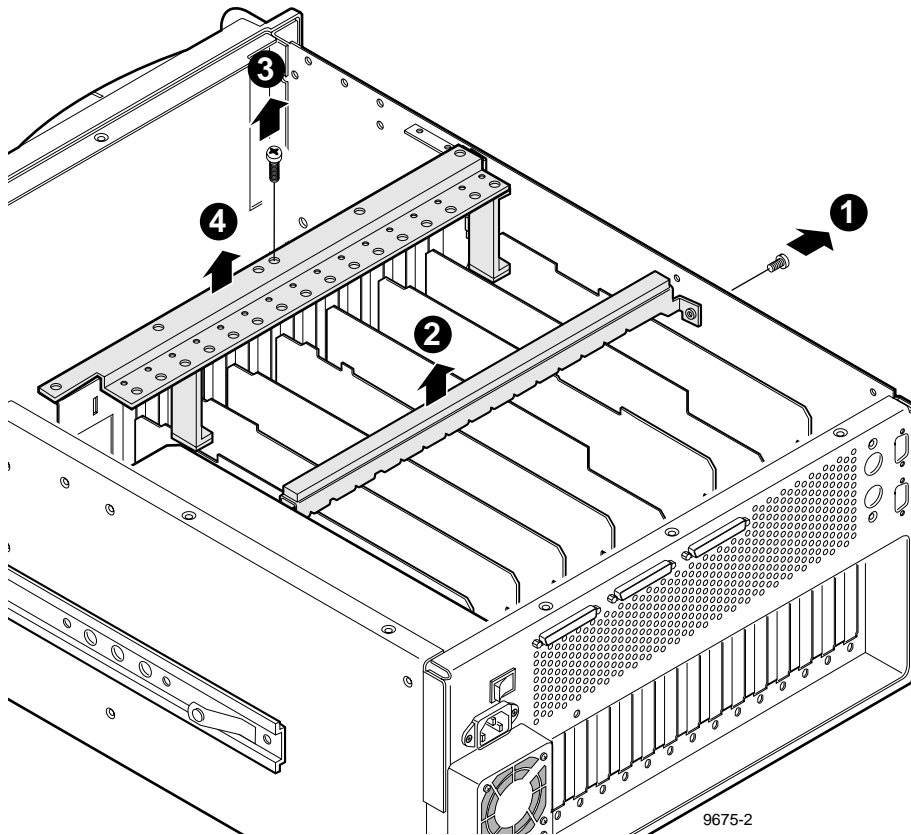

Figure 3. Removing the circuit board hold-down brackets
1. Use the Torx tool with the T10 tip to remove the exterior screw (❶ in Figure 3) that secures the rear board hold-down bracket.
2. Lift the bracket (❷ in Figure 3) up and out of the chassis and set it aside.
3. Use the Torx tool with the T10 tip to remove the interior screw (❸ in Figure 3) that secures the front board hold-down bracket.
4. Lift the bracket (❹ in Figure 3) up and out of the chassis and set it aside.